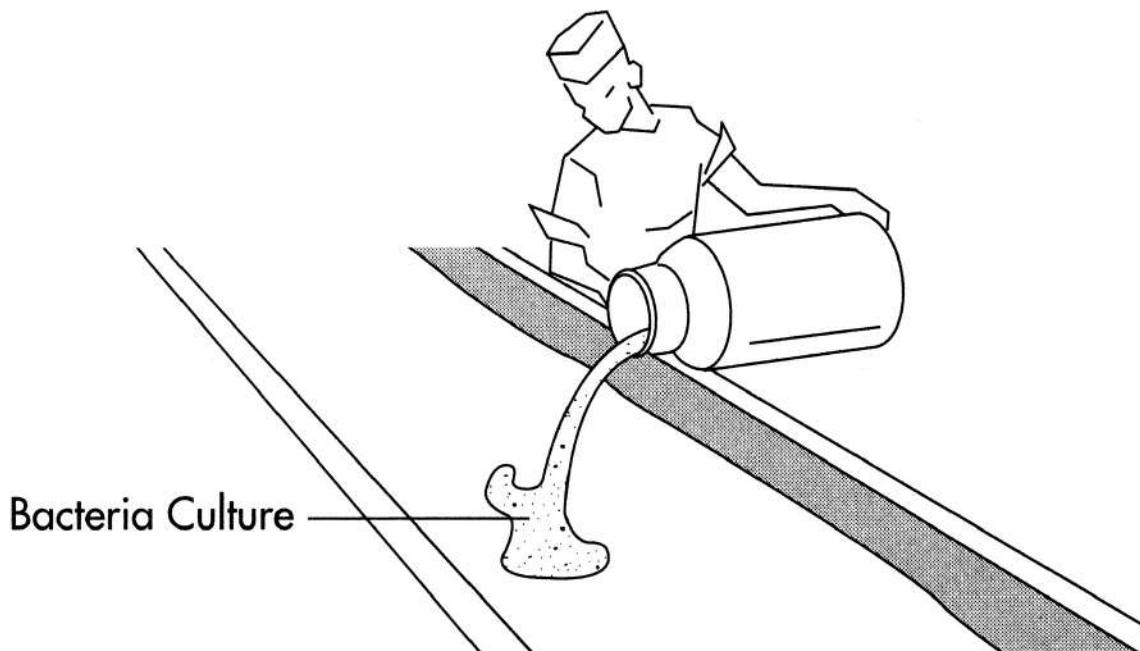

Figure 1. In a typical cheese-making operation, the first step is preparing the milk.
1. Small cheese factories accept either morning milk (which is richer), evening milk, or both. Because it is generally purchased from small dairies that don't pasteurize, this milk contains the bacteria necessary to produce lactic acid, one of the ingredients that triggers curdling. Cheese makers let the milk sit until enough lactic acid forms to begin producing the type of cheese they're making, and, depending on the type of cheese being produced, cheese makers may then heat the ripening milk. This process differs slightly at large cheese factories, which use pasteurized milk and must add a culture of bacteria to produce lactic acid (see figure 1).